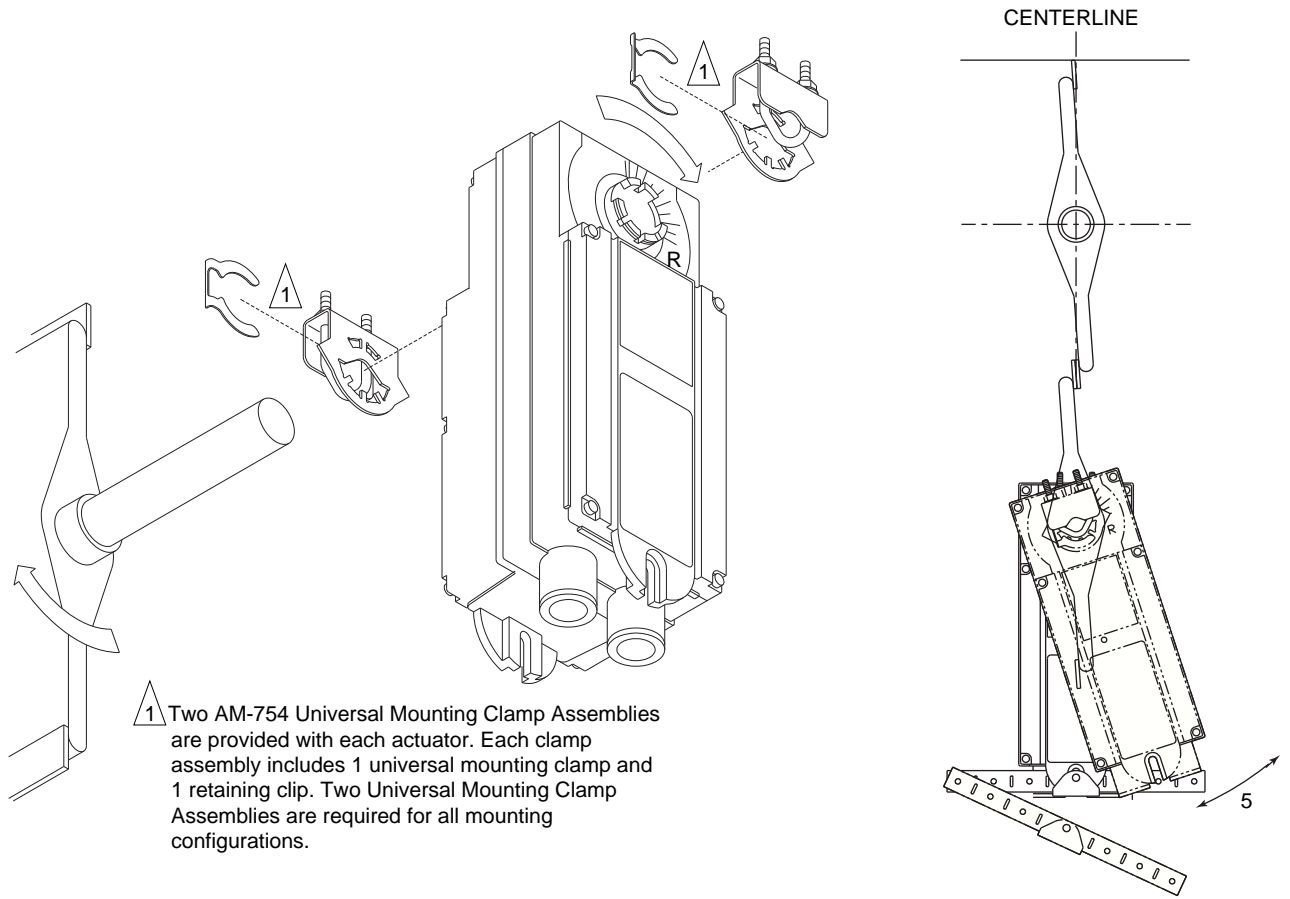
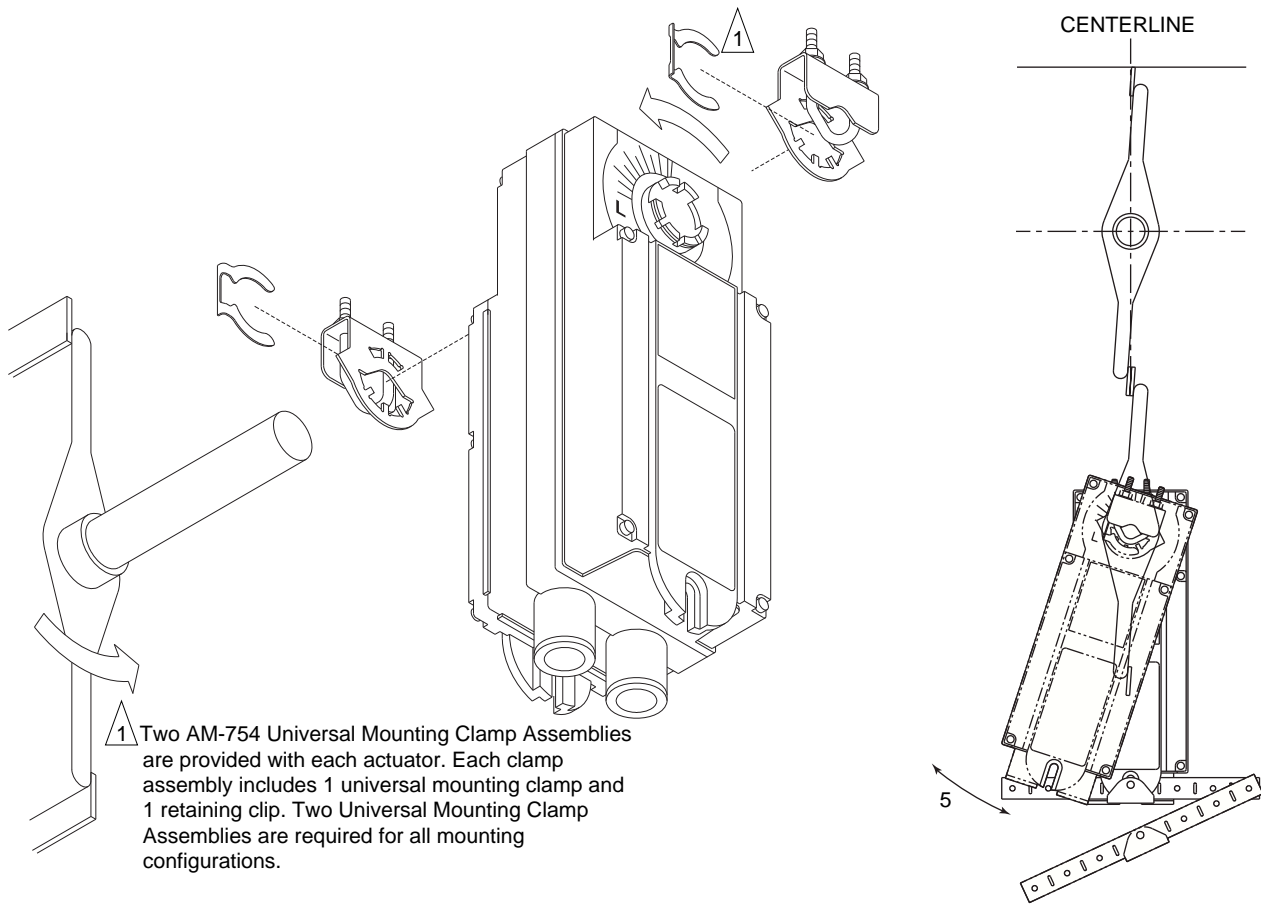

Figure-10 Long Damper Shaft Mounting with Clockwise Spring Return for Normally Closed Damper.
Figure-11 Long Damper Shaft Mounting with Counterclockwise Spring Return for Normally Closed Damper.
- If the damper shaft rotates clockwise to the closed position, mount the actuator with the side marked "R" facing the installer. See Figure-10.
- If the damper shaft rotates counterclockwise to the closed position, mount the actuator with the side marked "L" facing the installer. See Figure-11.
6. Attach one side of the anti-rotation bracket to the mounting surface with one of the screws provided. Leave the screw loose so that the bracket can be rotated. See Figure-10 for clockwise or Figure-11 for counterclockwise spring return.
7. Pivot the anti-rotation bracket away from the actuator. See Figure-10 or Figure-11.
8. Loosen the universal mounting clamps, making sure not to move the damper shaft. Rotate the actuator approximately 5° in the direction which would open the damper. See Figure-10 or Figure-11.
10. Manually rotate the actuator toward the full-closed position to apply pressure to the damper seals. See Figure-10 or Figure-11.
11. Pivot the anti-rotation bracket into place and secure the other side of the bracket onto the mounting surface using the other screw provided with the actuator. See Figure-10 or Figure-11.
12. Verify that the damper is in its full-closed position and actuator at 90° (perpendicular) to the damper shaft. See Figure-10 or Figure-11.
9. Attach one side of the anti-rotation bracket to the mounting surface with one of the screws provided. Leave the screw loose so that the bracket can be rotated. See Figure-10 for clockwise or Figure-11 for counterclockwise spring return.
10. Pivot the anti-rotation bracket away from the actuator. See Figure-10 or Figure-11.
11. Loosen the universal mounting clamps, making sure not to move the damper shaft. Rotate the actuator approximately 5° in the direction which would open the damper. See Figure-10 or Figure-11.
13. Manually rotate the actuator toward the full-closed position to apply pressure to the damper seals. See Figure-10 or Figure-11.
14. Pivot the anti-rotation bracket into place and secure the other side of the bracket onto the mounting surface using the other screw provided with the actuator. See Figure-10 or Figure-11.
15. Verify that the damper is in its full-closed position and actuator at 90° (perpendicular) to the damper shaft. See Figure-10 or Figure-11.